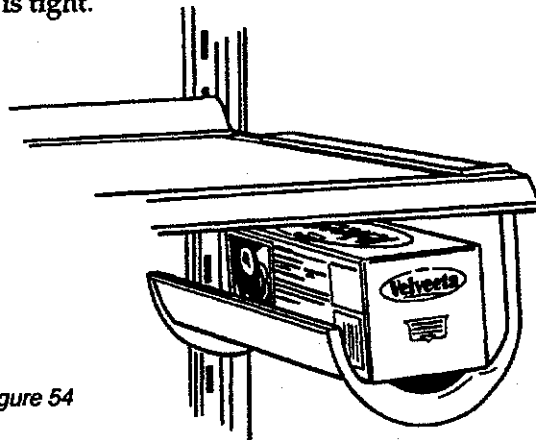

Figure 54
- a. Tabs on flat edge of rack hook over metal frame at the side of any shelf. See Figure 54.